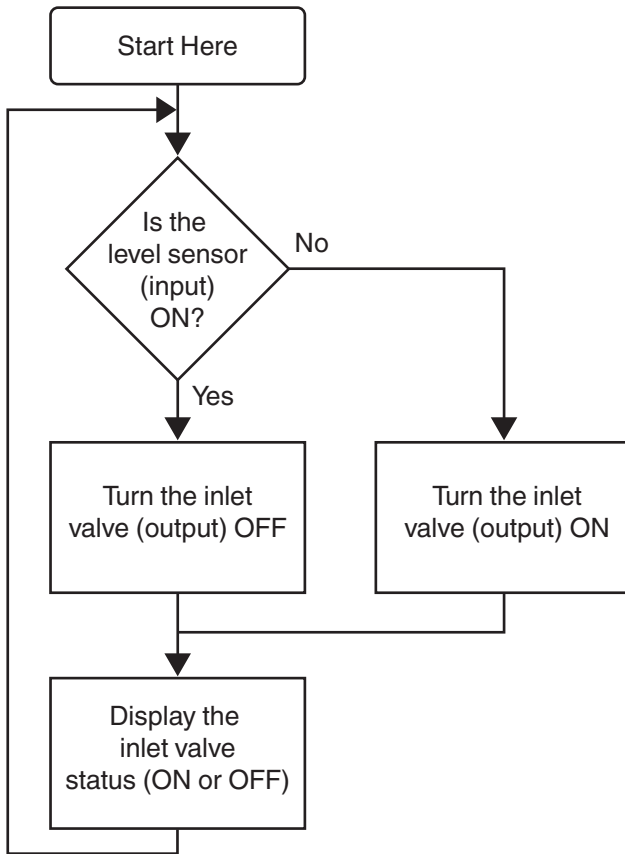

Figure 1-2 Program logic
be turned on to refill the tank. An LED light (output) will simulate the valve being opened (ON) or closed (OFF). The nanoLC Operator Panel is used to display the status of the valve (ON or OFF). Figure 1-2 below graphically shows the flow of the program logic.